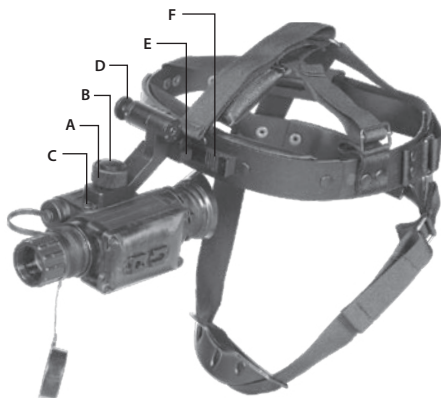

FIGURE 3-2. MOUNTING SPARK TO A GOGGLE KIT
2. Loosen the screw (A). While pushing down on the button (B), insert the Spark rail into the guide (C) of the goggle kit bracket. Tighten the screw (A). See Figure 3-2; the unit is shown in the correct positioning for the right eye.
4. To adjust the equipment for greater comfort, loosen the screw (A) and move the unit along the guide (C).
5. The goggle kit has a flip-up mechanism. Push the button (D) of the goggle kit bracket and lift the unit up until it reaches its top position.
6. Push the same button (D) to lower the unit into the correct viewing position.
Figure 3-2 shows the Spark in the correct position for the right eye. To readjust the unit for the other eye, remove the unit from the goggle kit bracket. Turn the unit around (180°) and mount it on the bracket through the rail on the second side. With the button (E) pushed, move the unit along the slide-rail (F) until the desired, most comfortable position is reached.